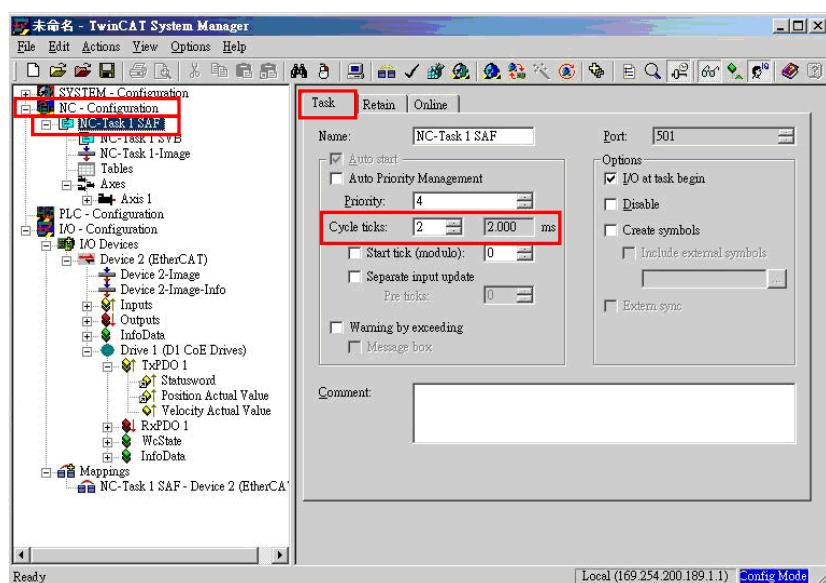

Fig. 5-14
- (9) Select "NC-Task 1 SAF" in "NC-Configuration" at the left side of main window. Go to "Task" tab at the right-side window and set DC cycle time for "Cycle ticks". Fig. 5-14 gives an example of setting cycle time to be 2 ms.